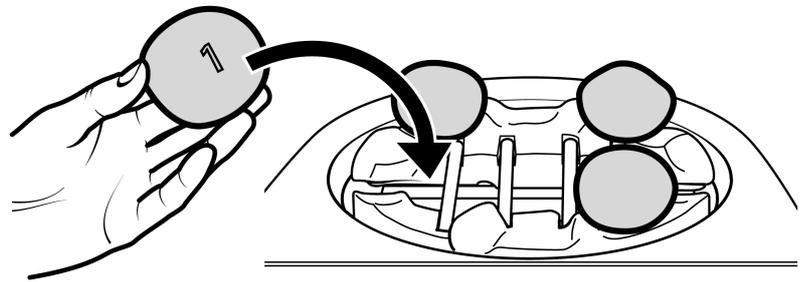

Figure 33 Pebble number '1' Location
4. There are four pebbles numbered '1' on the underside. Locate these onto the pebble base at the ends of the outer left and right hand ceramic support rods (See figure 33).